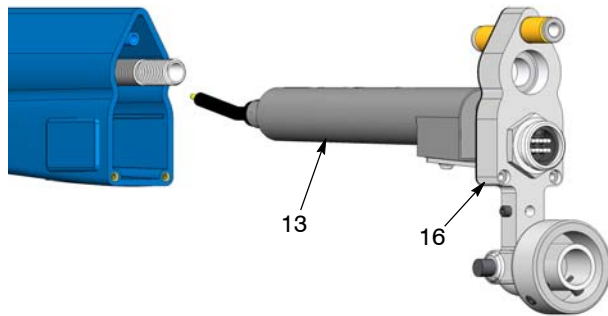

Figure 26 Removing the Multiplier from the Housing
2. See Figure 26. Pull the heat sink/multiplier assembly (13, 16) out of the housing.